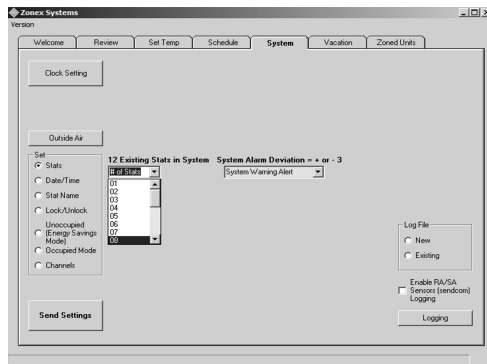

Fig. 11
1. Click on the SYSTEMS Tab, and click on the radio button next to Stats (see Fig. 11).
3. The program is equipped with a **System Alarm Deviation** function, or System warning alert (see Fig. 11), which allows the user to establish out of range temperature criteria from 3-10°. Whenever a thermostat exceeds the selected deviation from its heating or cooling setpoints, the current temperature will be highlighted in Yellow on the REVIEW Screen. If this feature is not required, select 00 to disable the alert; otherwise, select the temperature deviation.